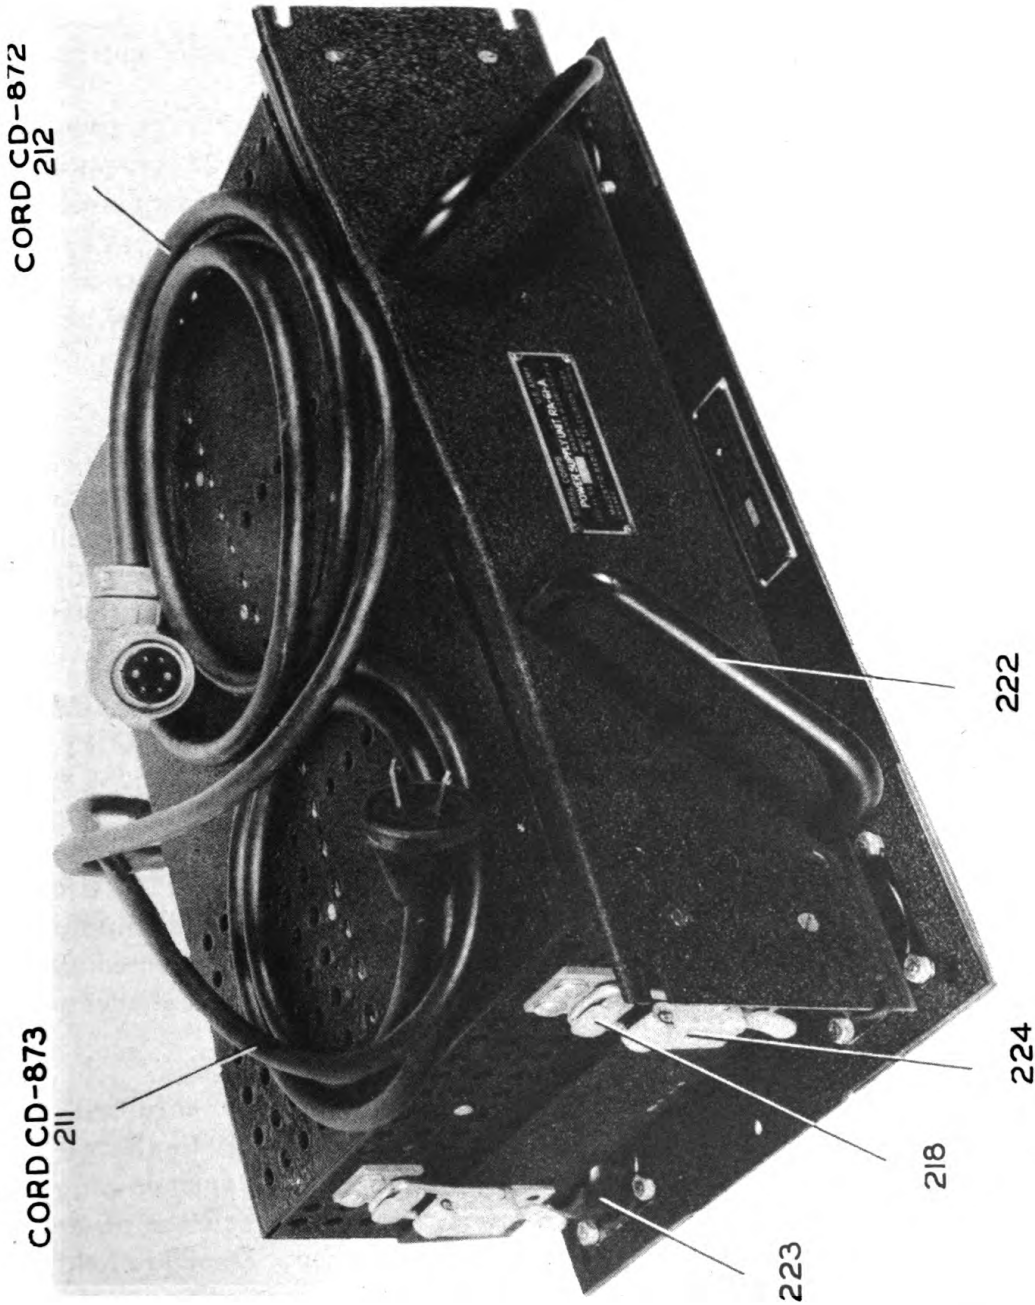
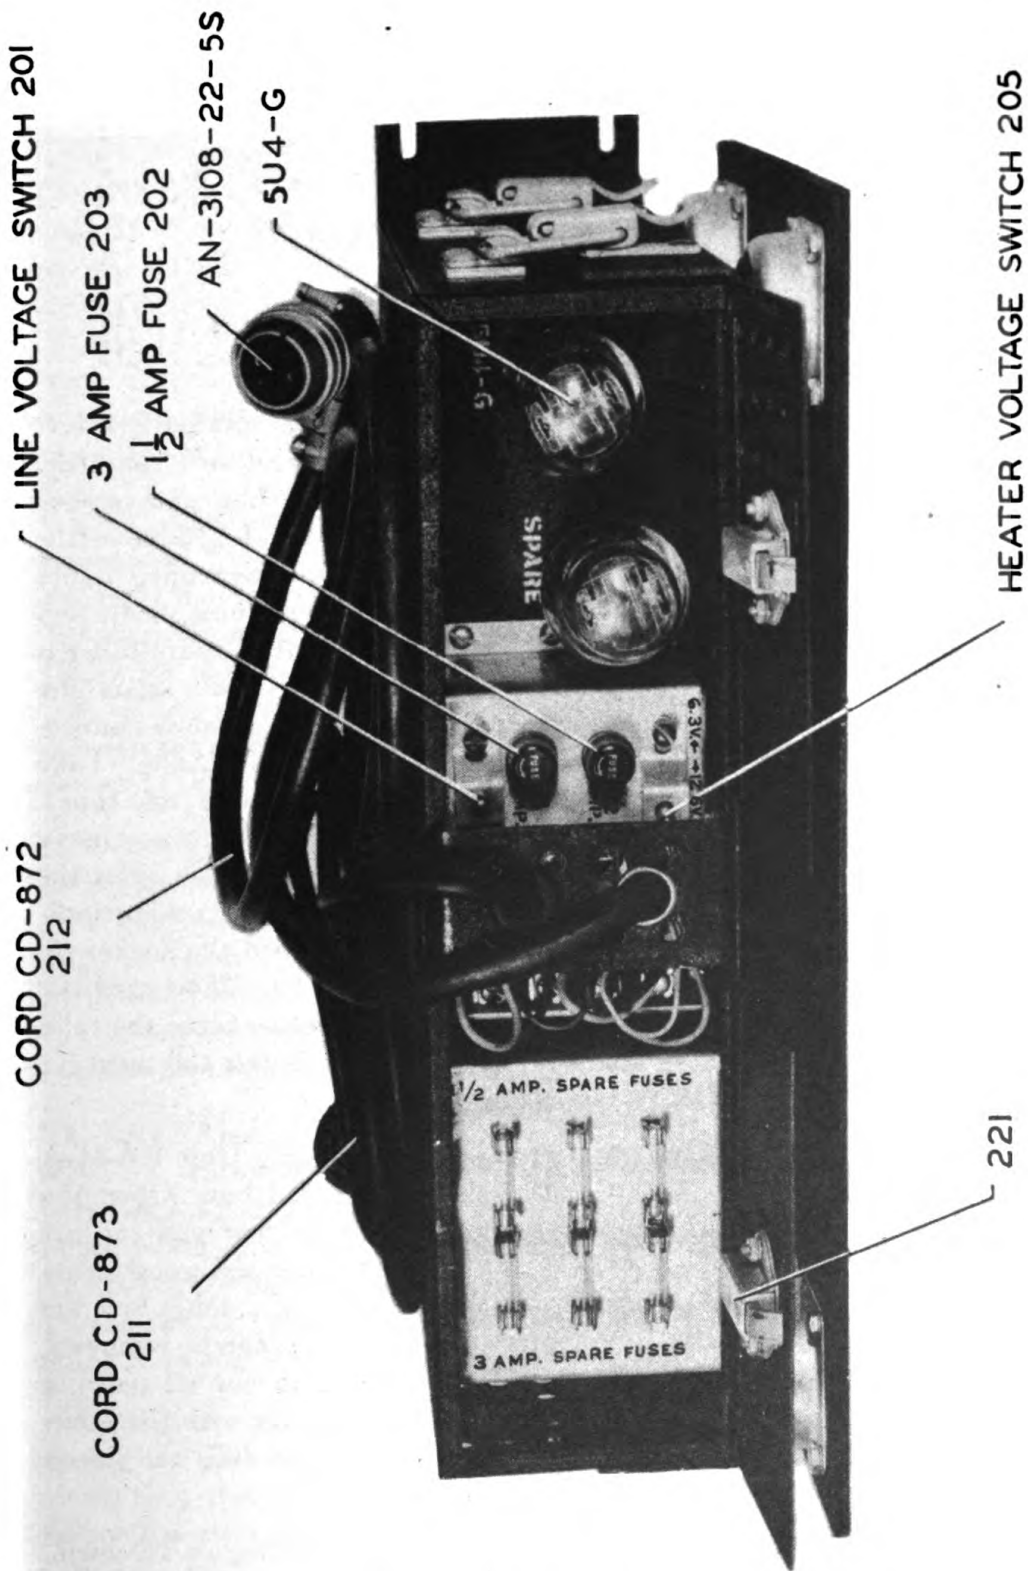

Figure 4. Power Supply Unit RA-61-A on Mounting FT-414, diagonal view
Figure 5. Power Supply Unit RA-61-A, on Mounting FT-414, back view
6. POWER SUPPLY UNIT RA-61-A.—**a. General.**—Power Supply Unit RA-61-A (figure 4) supplies a-c heater voltage and d-c plate potentials to the receiver. It is in a case and the front panel has slots for mounting in a relay rack. When used in vehicles it is mounted on Mounting FT-414. Cord CD-873 connects it to the line supply and Cord CD-872 connects it to the receiver. The power unit has two 5U4G rectifier tubes, one in use and one spare. These tubes are inside the right hand door (figure 5) with a ring catch at the back. The power unit is turned on and off by the POWER ON-OFF switch on the front panel of the receiver.
b. Power input.—Power Supply Unit RA-61-A will work from either 115 or 230 volts 50 to 60 cycles alternating current. Inside the right hand back door (figure 5) is a line voltage switch which must be thrown
d. Fuses.—Between the two switches mentioned above are two fuses marked $1\frac{1}{2}$ AMP. and 3 AMP. These are on the incoming supply line; the $1\frac{1}{2}$ AMP. for a 230-volt line and the 3 AMP. for a 115-volt line. Be sure the line voltage switch is in the correct position or you will burn out a fuse. There are three spare fuses of each size inside the left hand door (figure 5).